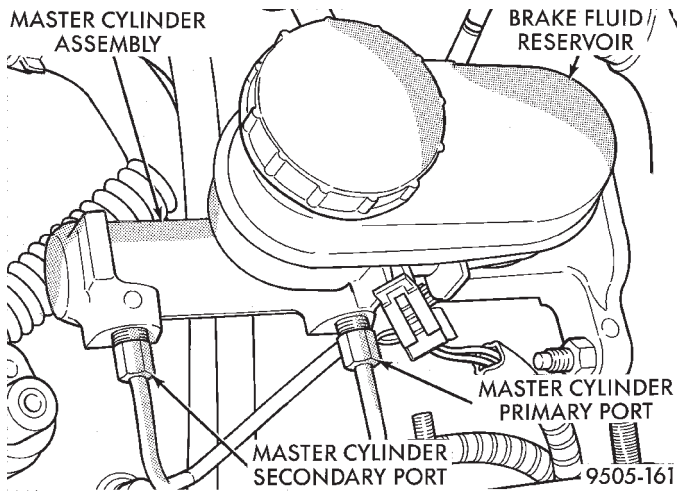
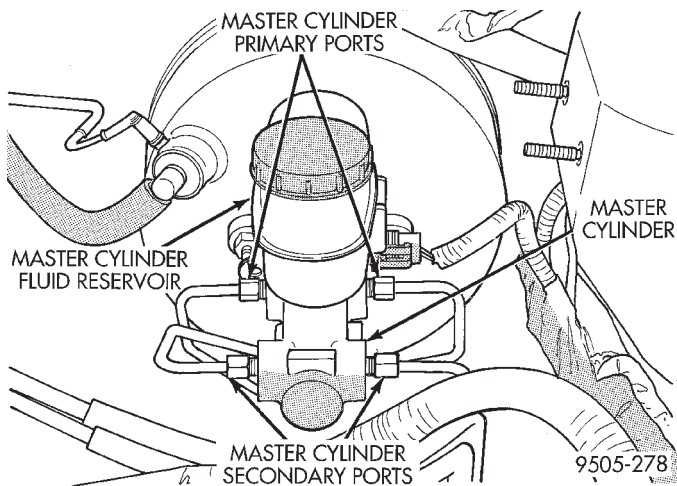

Fig. 82 Master Cylinder Primary And Secondary Ports With ABS
Fig. 83 Master Cylinder Primary And Secondary Ports Without ABS
(2) Disconnect the primary and secondary brake tubes from the master cylinder outlet ports (Fig. 82) (Fig. 83). Install plugs at all open brake tube outlets on master cylinder assembly.
- (4) Connect brake tubes to master cylinder primary and secondary ports (Fig. 82). Then tighten the tube nuts to a torque of 17 N·m (145 in. lbs.).